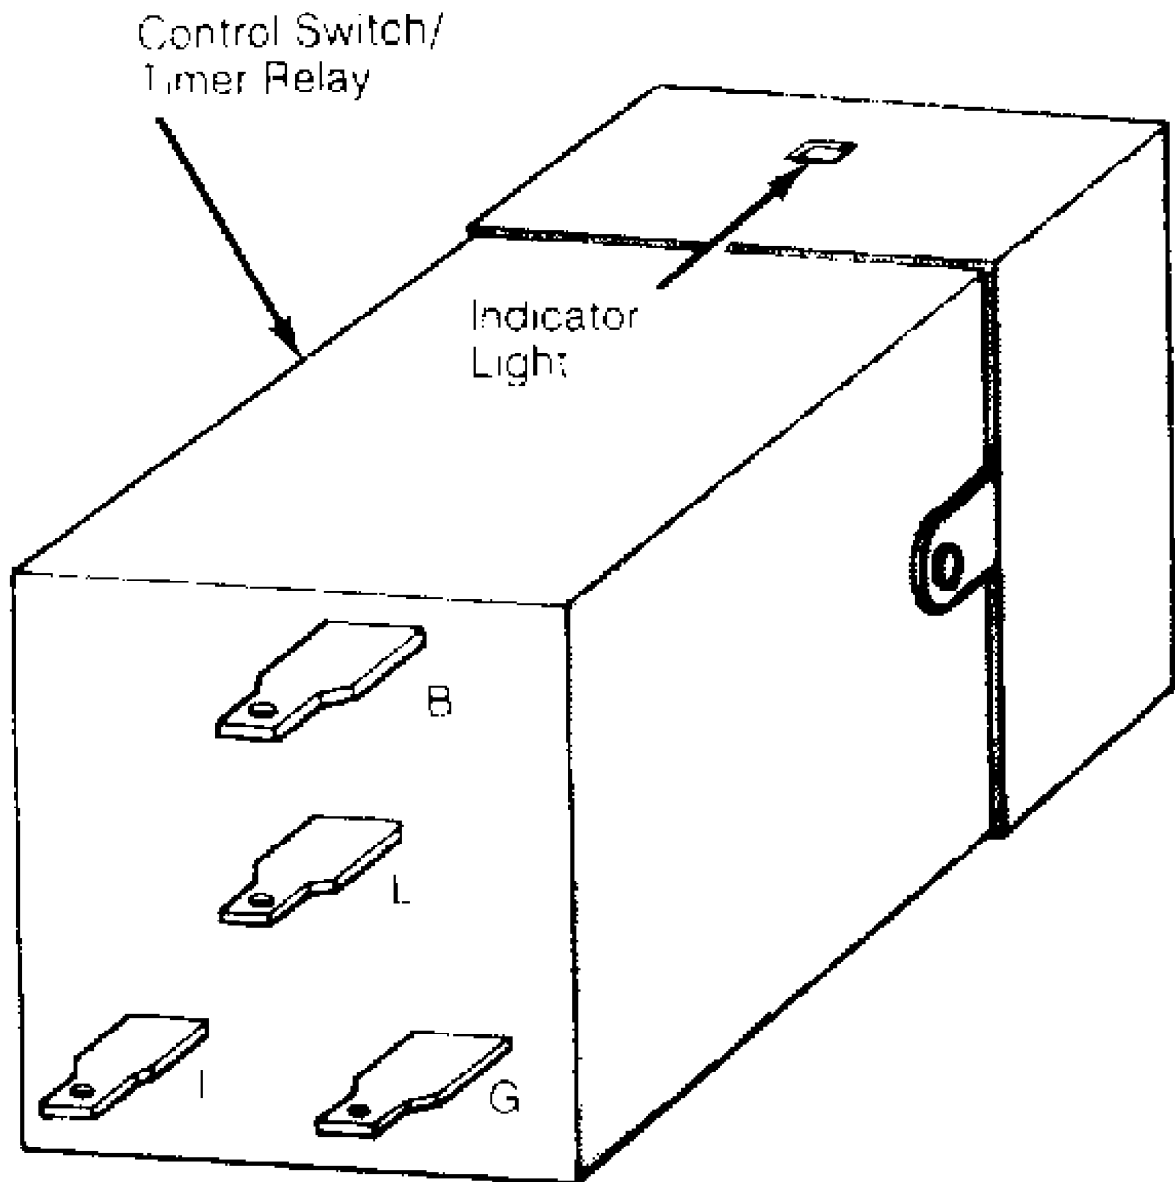

Fig. 1: Control Switch/Timer Relay Terminals
- 1) Remove control switch/timer relay from instrument panel with wiring still connected. Turn ignition on. Using a DC voltmeter, check for voltage at terminals "B", "I" and "L". See Fig. 1. Both "B" and "I" should have 10-14 volts present. Terminal "L" should indicate zero volts.